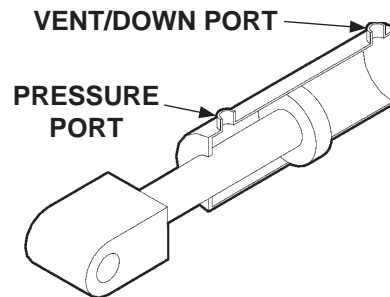

FIG. 48-1
4. Check the hydraulic cylinder. With the platform on the ground, remove the breather plug or vent line from the vent/down port of the cylinder (**FIG. 48-1**). Raise the platform even with the bed. Allow pump motor to run two seconds more while you watch for hydraulic fluid at the vent/down port. A few drops of hydraulic fluid escaping the vent/down port is normal; however, if it streams from the vent/down port, piston seals are worn. Replace seals.